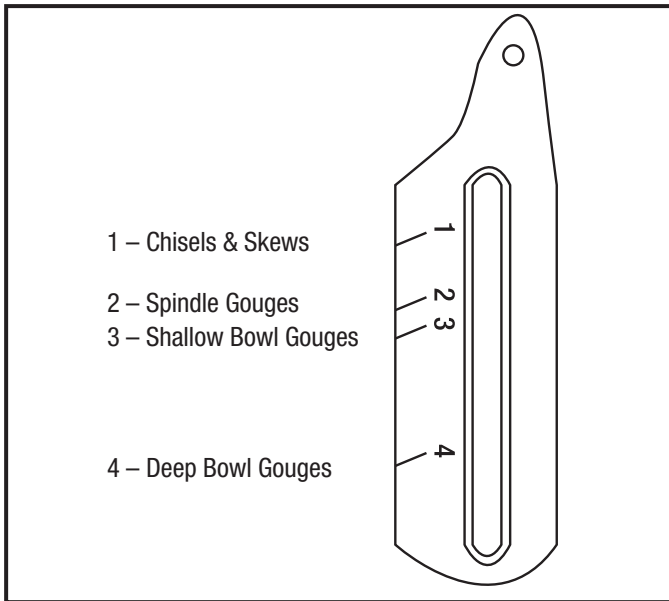

Fig. 1
- After placing the proper plate in the center of the jig, look at either side of the jig. Loosen the wing nuts on both sides of the jig. One of the sides will have an angle gauge on the side (Fig. 1). Depending on your tool, line up the wing nut to the proper number to the tool you are planning to sharpen. See Fig. 1 or the top of your jig for proper setting for the tool you will be sharpening. Tighten the wing nuts on both sides.